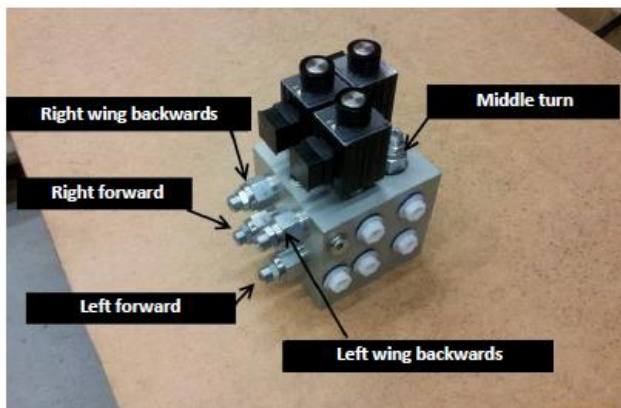

Figure 5
- Lubricate the float support shafts on a daily basis (four grease nipples in U320-600HD ploughs, two in U280-U300 ploughs) (Figure 5).
- Lubrication of the floating mechanism two (model U280-U300) or four nipples (U320-U600HD) (see Figure 5)